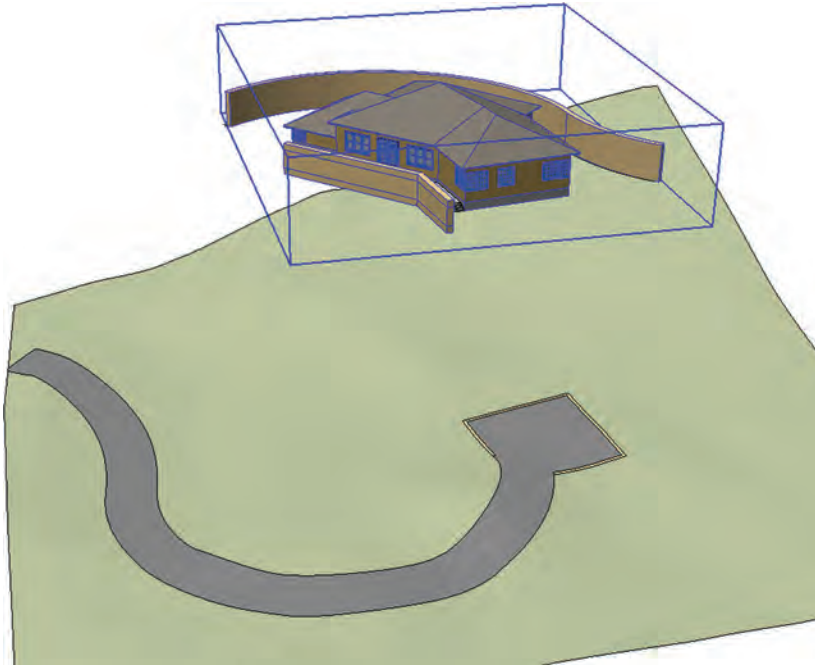

Fig. 15-19: Turn on the terrain again.
- Turn on the terrain again. The home and walls should be located above the terrain (Fig. 15-19).